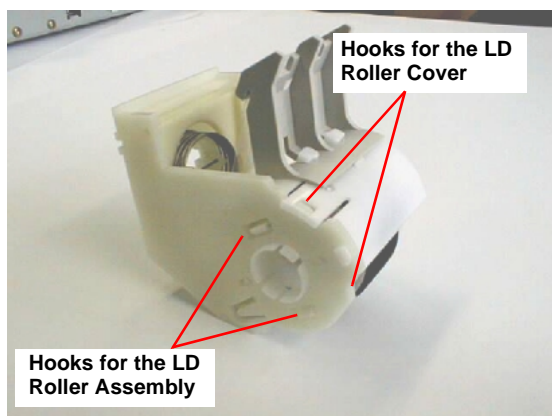

Figure 4-42. Releasing hooks for LD Roller
- 2) Release the two hooks fixing the LD Roller Cover to the Paper Feed Roller Assembly. Refer to Figure 4-42.
- 3) Release the two hooks fixing the LD Roller Assembly around the shaft hole of the Paper Feed Roller Assembly. Refer to Figure 4-42.